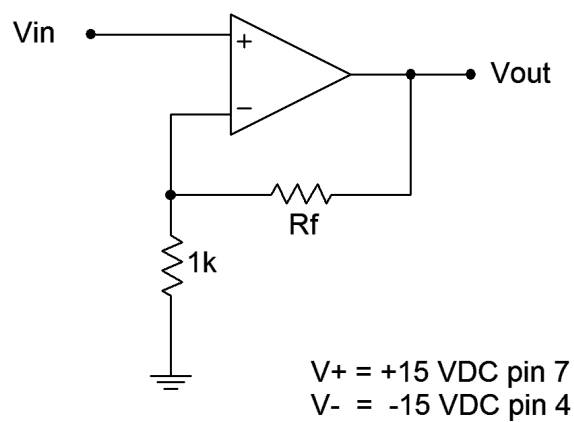

Figure 1
1. The voltage gain of the non-inverting amplifier can be determined accurately from the feedback resistors R_i and R_f . Calculate the voltage gains for the amplifier of Figure 1 for the R_f values specified, and record them in Table 1.
2. Assemble the circuit of Figure 1 using the $4k7\ \Omega$ resistor.
14. Return to the amplifier of Figure 1 with R_f set to $10\text{k}\Omega$. If available, the LF351 is a good choice for the op amp in this portion. Replace the general purpose generator with the low distortion sine source set to 1 kHz. Adjust its output level so that the output of the op amp is approximately 0 dBV.